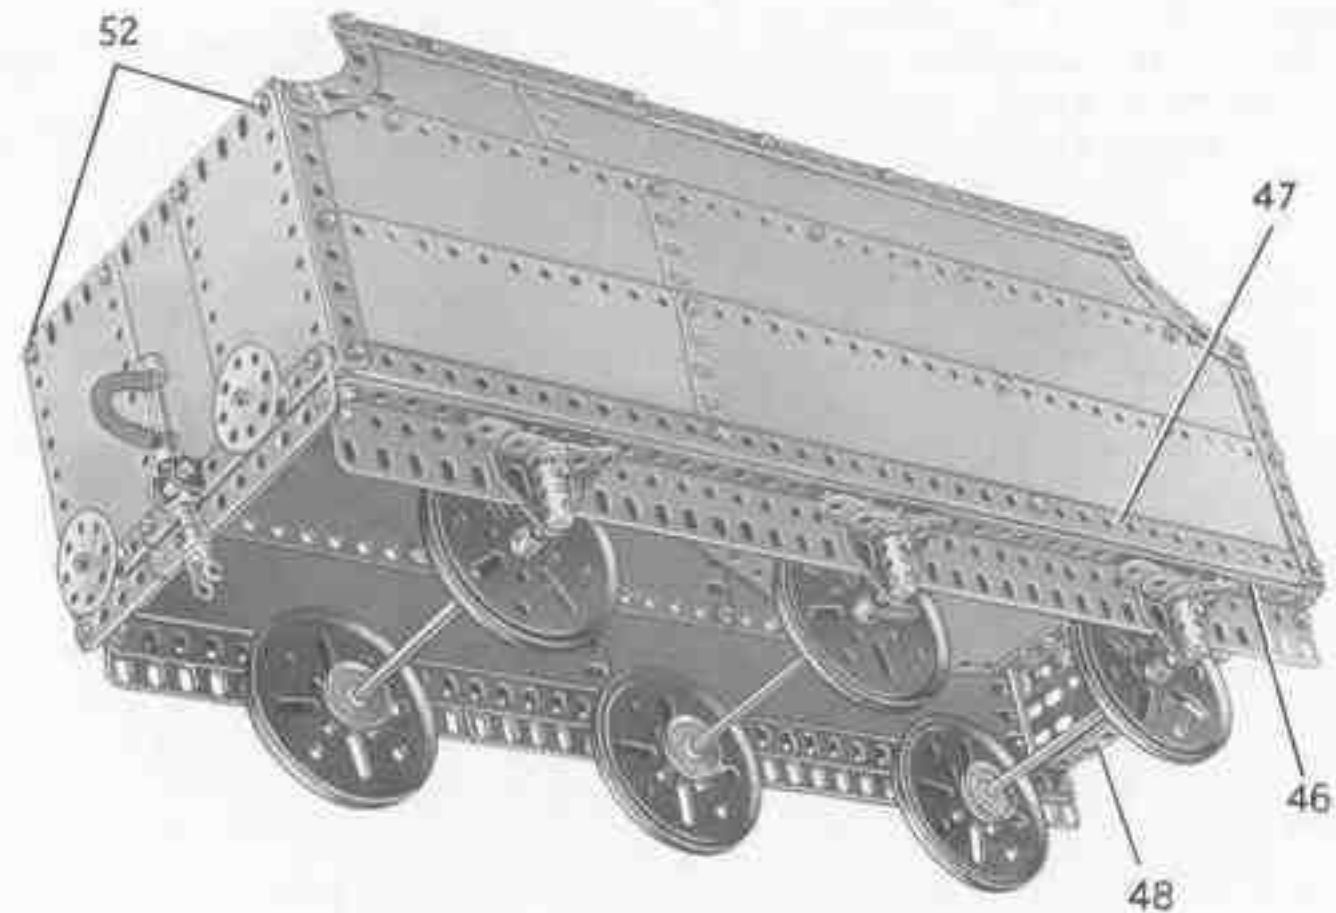

FIG. 9. Another view of the Tender
Each side of the underframe is made by bolting a $12\frac{1}{2}$ " Flat Girder and a $9\frac{1}{2}$ " Flat Girder to an $18\frac{1}{2}$ " Angle Girder (46) (Fig. 9). A further $18\frac{1}{2}$ " Angle Girder (47) is fixed to the Girder (46), and the sides are connected at each end by built-up girders (48), each made from a $5\frac{1}{2}$ " and a $2\frac{1}{2}$ " Angle Girder overlapped three holes. The wheels are free to turn between Spring Clips and 1" Pulleys on $6\frac{1}{2}$ " Rods, which are mounted in Flat Trunnions and in Couplings fixed to the Flat Trunnions by $\frac{1}{2}$ " Bolts. The leaf spring above each Coupling is formed by a $2\frac{1}{2}$ " Strip and a $1\frac{1}{2}$ " Strip supported by an Angle Bracket.
The front pair of $4\frac{1}{2}$ " Angle Girders is connected by a built-up girder (50), made from a $5\frac{1}{2}$ " and a $2\frac{1}{2}$ " Angle Girder. A $5\frac{1}{2}$ " x $1\frac{1}{2}$ " Flexible Plate is fixed between this and the girder (48). A further built-up girder (51), made in the same way as the girder (50), is fixed in position, and to these girders are bolted three $12\frac{1}{2}$ " x $2\frac{1}{2}$ " Strip Plates. The Strip Plates are curved as shown and are attached to the Girders (49). Each Strip Plate is extended by two $4\frac{1}{2}$ " x $2\frac{1}{2}$ " Flexible Plates. These are supported at their rear ends by a built-up girder held by bolts (52) (Fig. 9), and made from a $5\frac{1}{2}$ " and a $1\frac{1}{2}$ " Angle Girder. A Boiler End is attached to this girder by an Angle Bracket.
The back of the tender is filled in by three $4\frac{1}{2}$ " x $2\frac{1}{2}$ " Flexible Plates, edged at their lower ends by two built-up strips each made from two $4\frac{1}{2}$ " Strips. The buffers are Wheel Discs and $\frac{1}{2}$ " fixed Pulleys on $\frac{1}{4}$ " Bolts. The tender coupling and the brake pipe are arranged as shown in Fig. 9.